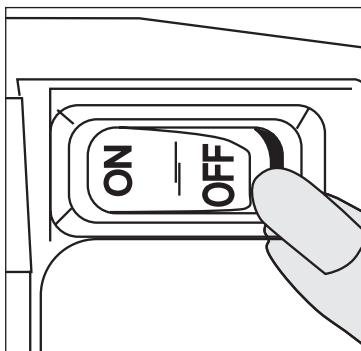

Figure 2/Figura 2
- Make sure the power switch is in the "Off" position **Figure 2**. Unwrap power cord and plug power cord into an appropriate wall outlet (refer to *Specifications*). Plug models 5650H & 4650D into a grounded wall outlet (refer to *Grounding Instructions* on reverse).